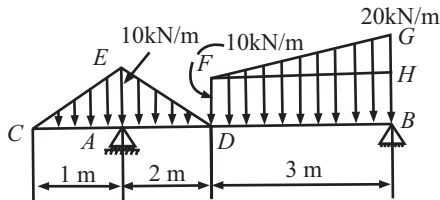

Fig 8.52
Q. 23: Determine the reactions at supports A and B of the loaded beam as shown in fig 8.52.